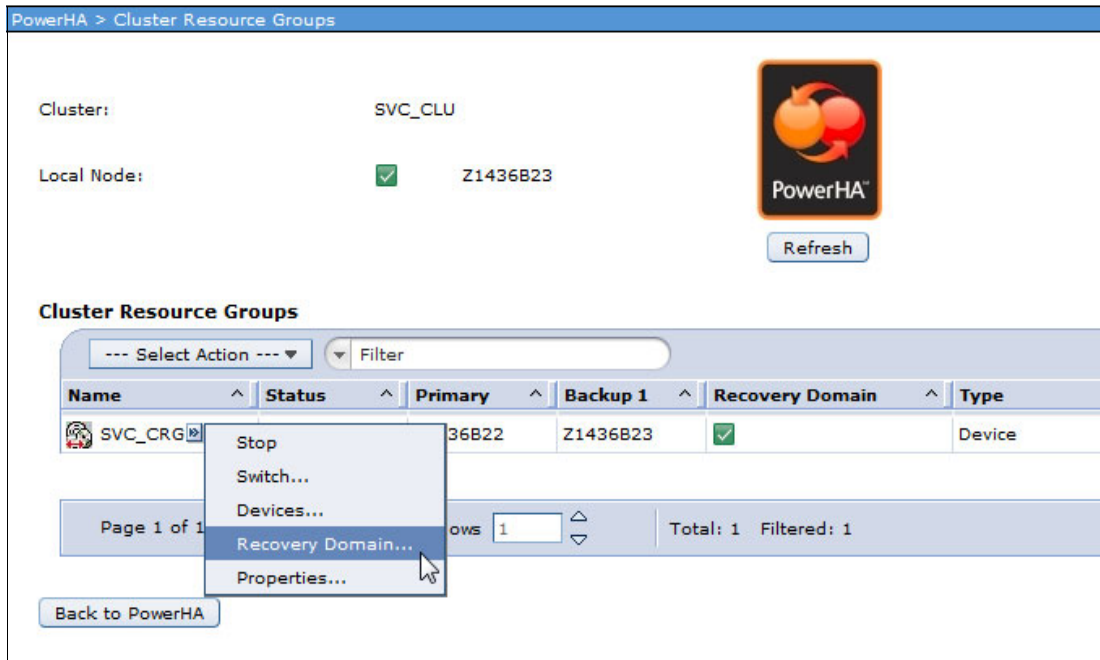

Figure 4-46 Three-node cluster: Creating a recovery domain
- In the PowerHA Cluster Resource Groups window, select **Recovery Domain** from the Select Action pull-down menu, as shown in Figure 4-46.